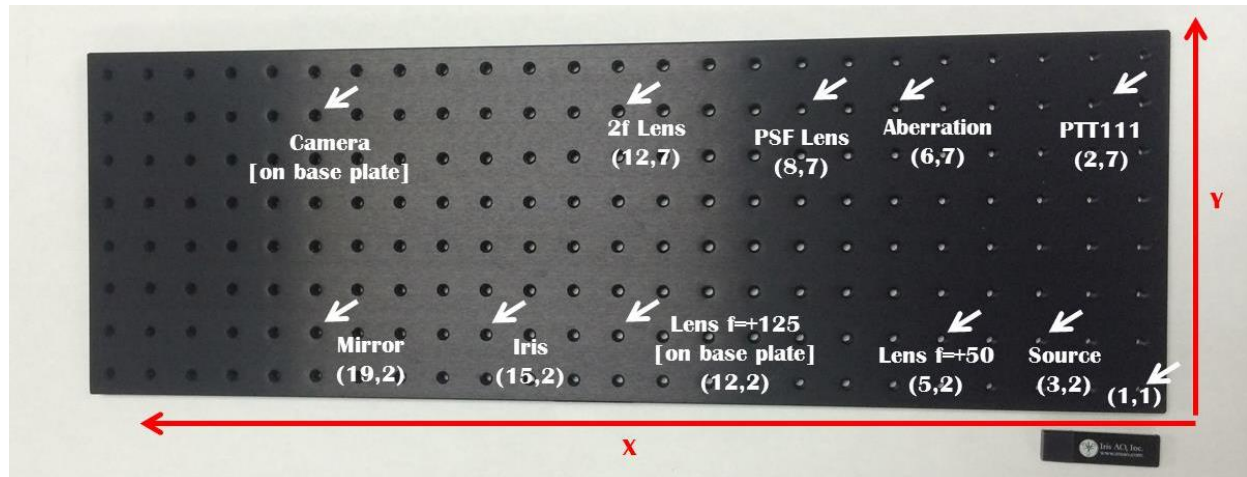

Figure 1: The Iris AO Kit bench plate with coordinate positions for all optical post holders. This figure will be referenced throughout the manual.
The bench plate is composed of 192 holes in a 24 x 8 grid pattern. All holes have M6 threads and are separated by 25 mm of space. For the purposes of this manual, the holes have been labeled based on a Cartesian coordinate system. Since the lower right hand corner of the bench plate is where the laser source is located, the hole in that corner is identified as (1,1). All coordinates are positive numbers. Positions of post holders for all optical components are labeled, **see Figure 1 below**. Note that the camera must be mounted on a base plate to allow for more accurate positioning.
- Repeat the above mounting procedure for all other lenses and place according to the corresponding coordinates in **Figure 1**.
- Unscrew the long male adapter on the steel post (58999) at coordinates (19,2) as in **Figure 1** to get access to a female M4 thread. Then use an M4 screw provided with the kinematic mount to attach it to the steel post, **see Figure 11 below:**
2.7 Deformable Mirror (DM)